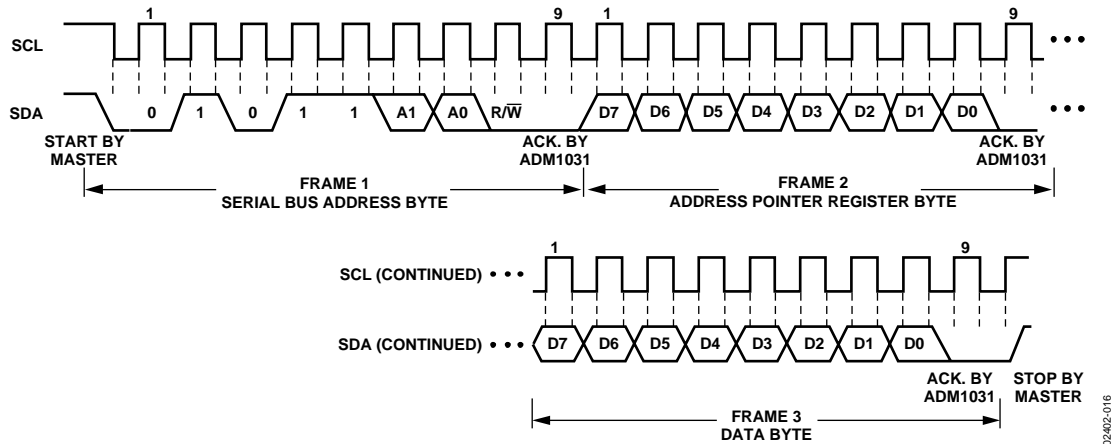
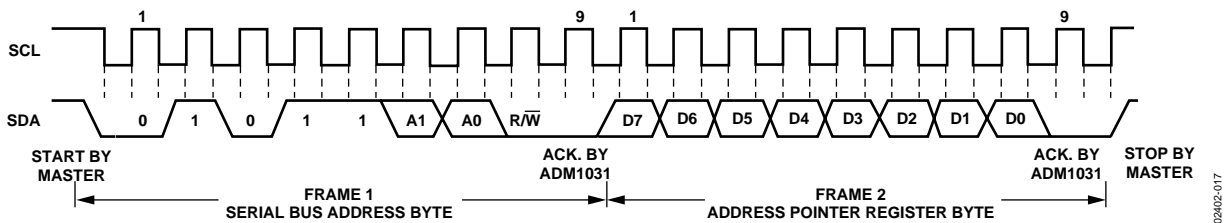
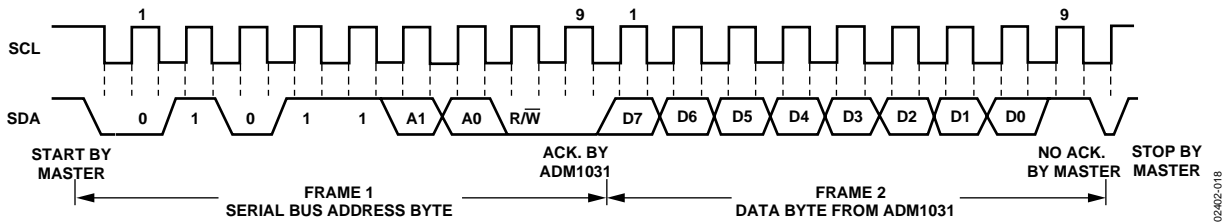

Figure 16. Writing a Register Address to the Address Pointer Register, then Writing Data to the Selected Register
Figure 17. Writing to the Address Pointer Register Only
Figure 18. Reading Data from a Previously Selected Register
This is illustrated in Figure 16. The device address is sent over the bus followed by  $R/\overline{W}$  set to 0. This is followed by two data bytes. The first data byte is the address of the internal data register to be written to, which is stored in the address pointer register. The second data byte is the data to be written to the internal data register.
1. If the ADM1031's address pointer register value is unknown or not the desired value, it is first necessary to set it to the correct value before data can be read from the desired data register. This is done by performing a write to the ADM1031 as before, but only the data byte containing the register address is sent, as data is not to be written to the register. This is shown in Figure 17.
A read operation is then performed consisting of the serial bus address,  $R/\overline{W}$  bit set to 1, followed by the data byte read from the data register. This is shown in Figure 18.
2. If the address pointer register is known to be already at the desired address, data can be read from the corresponding data register without first writing to the address pointer register, so Figure 17 can be omitted.
- In Figure 16, Figure 17, and Figure 18, the serial bus address is shown as the default value 01011(A1)(A0), where A1 and A0 are set by the three-state ADD pin.